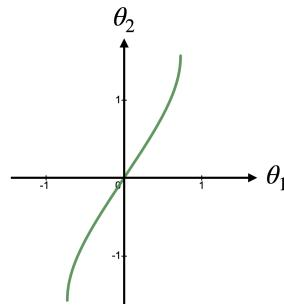

Figure 14
- (1 pt) Figure 14 is a graph of  $\theta_2$  vs.  $\theta_1$ . What function represents the green curve?